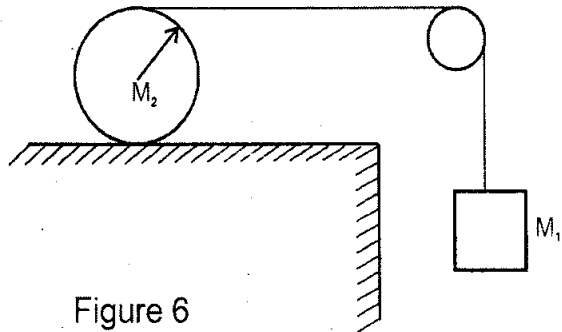

Figure 6
5. A cord passes over a massless and frictionless pulley as shown in Fig. 6. Carrying a mass M_1 at one end and wrapped around cylinder of mass M_2 which rolls on a horizontal plane. What is the acceleration of Mass M_1 ?